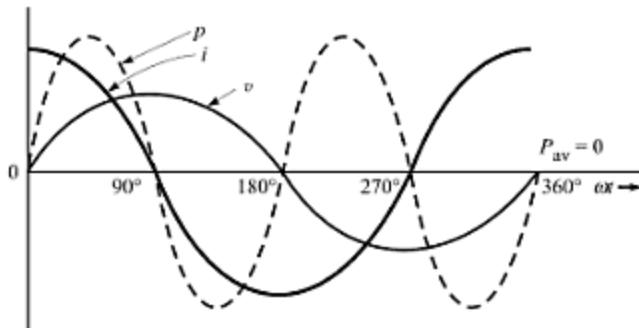

Fig. 9.23 Power waveform for a purely capacitive circuit.
**Power and Power Factor** Like an inductive circuit, the current and voltage are in quadrature4 in a purely capacitive circuit. However, in a capacitive circuit, the current *leads* the applied voltage by  $\pi/2$ , as shown by the voltage and current waveforms (drawn for one complete cycle) in Fig. 9.23. The power waveform can be plotted by finding the product  $vi$  from instant to instant. Between  $0^\circ$ – $90^\circ$  and  $180^\circ$ – $270^\circ$ , same sign. Hence, during these intervals the power is *positive*. Between  $90^\circ$ – $180^\circ$  and  $270^\circ$ – $360^\circ$ , the voltage and the current are of opposite sign. Hence, during these intervals the power is *negative*.
From the power-waveform in Fig. 9.23, we find that the power varies sinusoidally whose average value over a complete cycle is zero. Like an inductive circuit, here too the same amount of energy keeps on flowing alternately from source to the load and then from load to the source. *The average power consumed by the circuit is zero.*